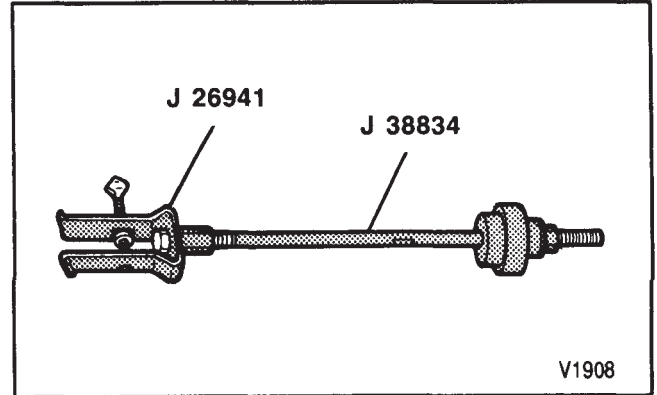

Figure 33—J 38834 Positioned to Remove Balance Shaft Rear Bearing
27. Balance shaft rear bearing using J 38834 and J 26941 (figures 33 and 34).